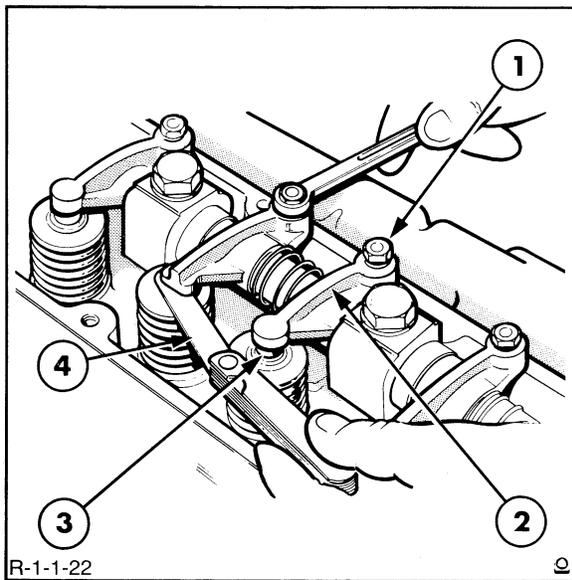

FIGURE 1-21
- Rotate the engine and set the valve lash, Figure 1-21, as follows: